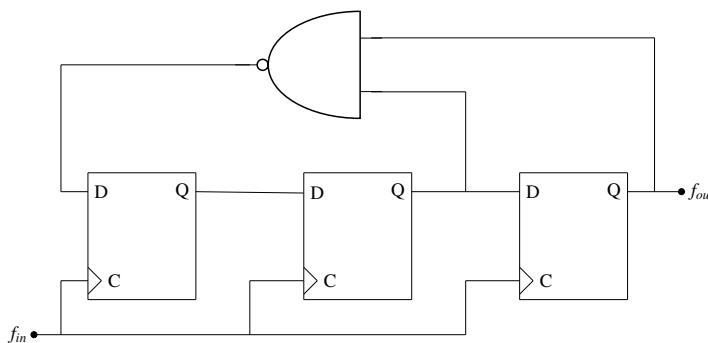

Fig. 5.23
23. Which of the following statements is true about digital circuits shown in Fig. 5.23?